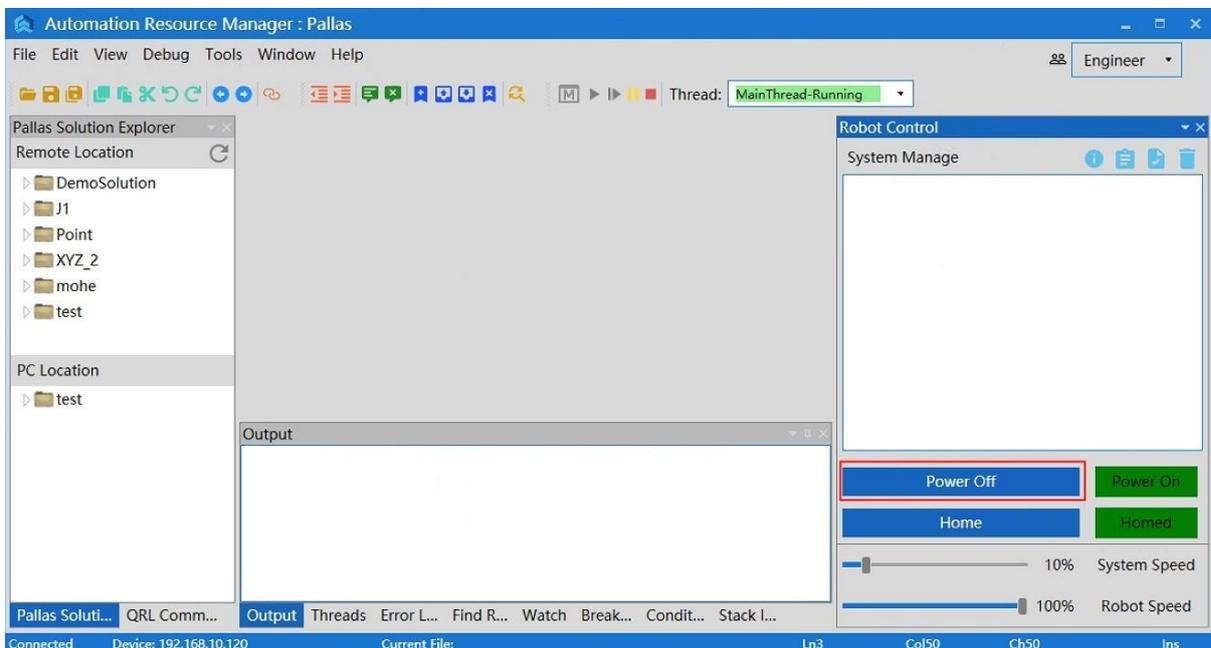

Figure 6-51 Teach interface in power-on state
**Step 2** Click the <Power Off> at the bottom right of the ARM debugging interface, as shown in Figure 6-51.